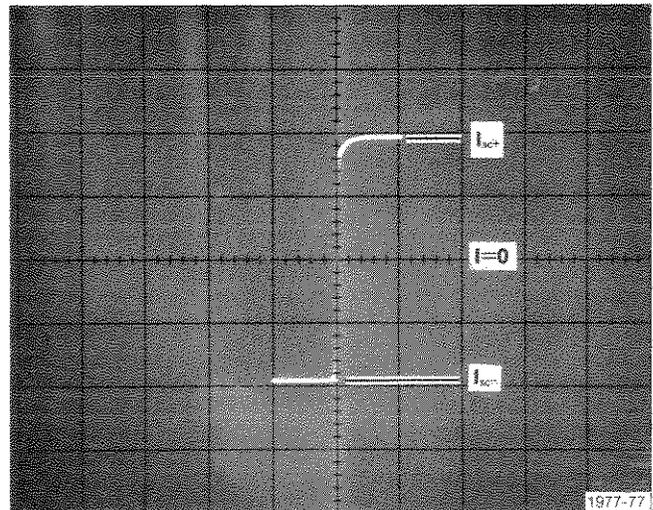

Fig. G-14. Output short circuit current.
- e. Check that the display resembles that of Fig. G-14 and is within specifications.